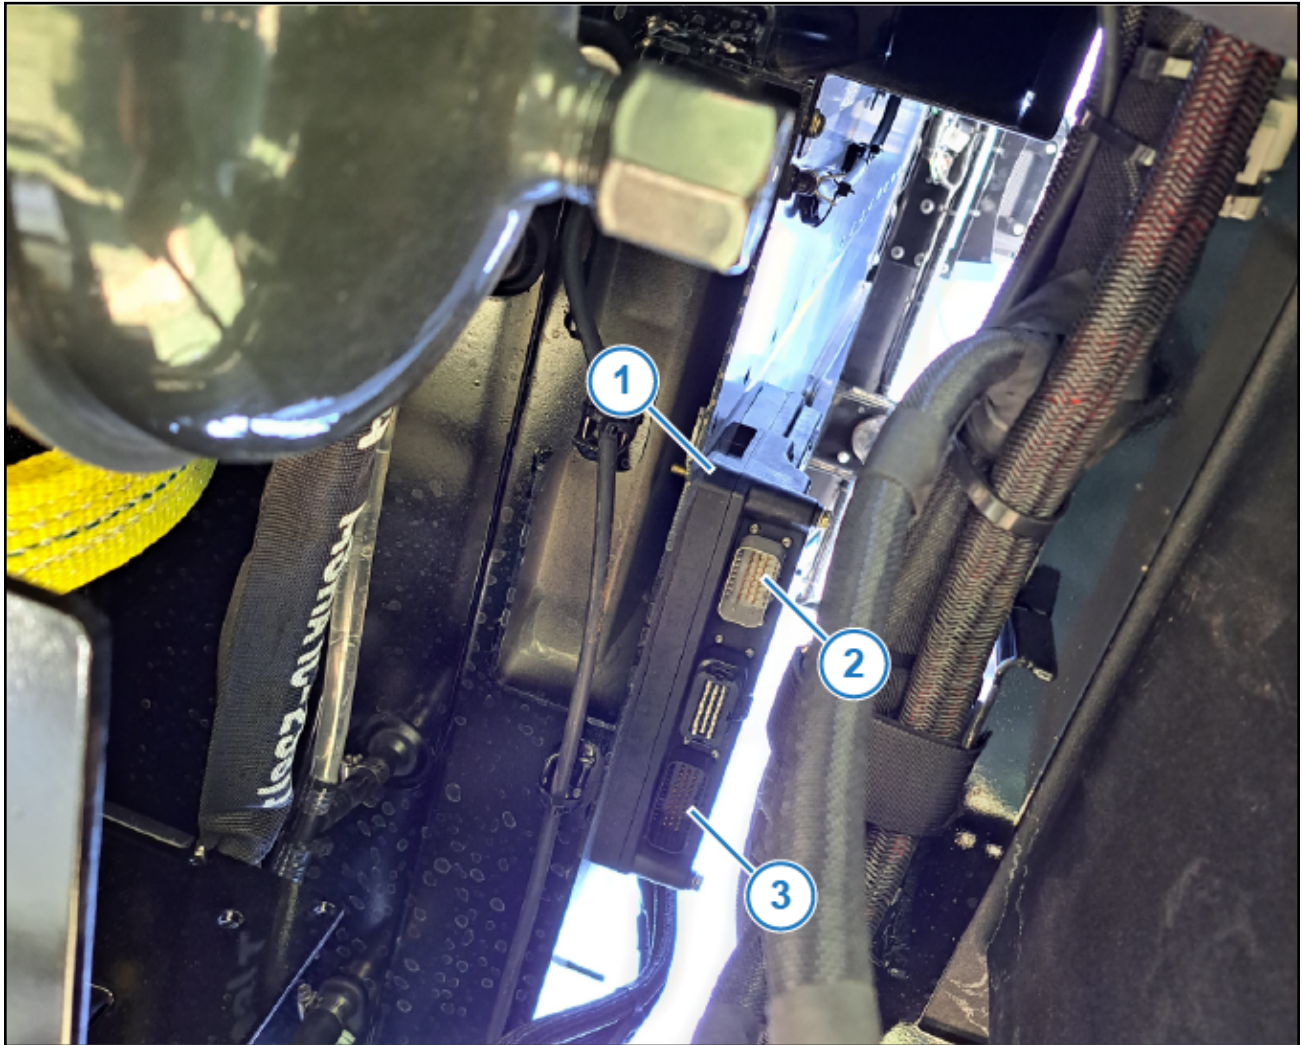

Figure 1: RCM Location
The RCM (Figure 1, Item 1) is located between the cab and product tank.
2. Unplug the J1 (Figure 1, Item 2) and J3 (Figure 1, Item 3) connectors from the RCM.